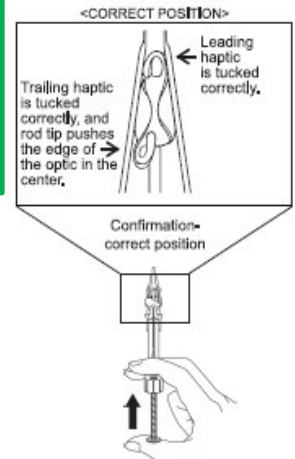

Fig.10: Step 5 - Push plunger and verify haptic positioning
5. Gently advance the plunger forward in one smooth, continuous motion until haptic tucking state reaches the specific position as illustrated in figure (Fig.10). This plunger advancement should require about 5 seconds.
Pay special attention that the trailing haptic is tucked correctly as the rod advances to the back edge of the optic. As the lens advances further confirm that the leading and trailing haptic are tucked correctly, and that the rod tip pushes the edge of the optic in the center (Fig. 10). If no issues are observed, go immediately to Step 6. If insert shield is not used, go to Step 6A. If insert shield is used, go to Step 6B.